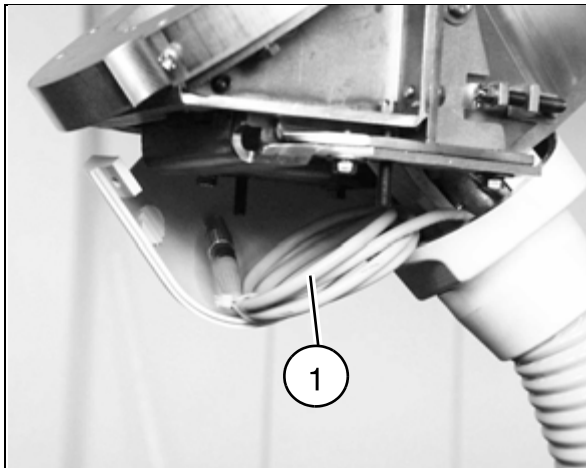

Fig. 48: Removing the cover panel
- Remove the shock wave head and take out the cable (1/Fig. 48 / p. 48).